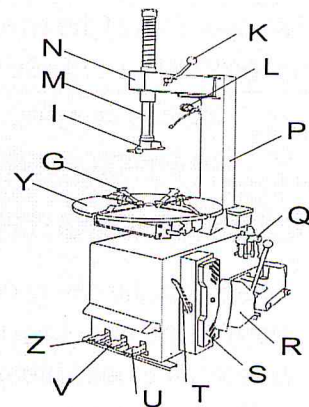

Fig.9
With the lever (T) inserted between the bead and the front section of the mounting head (I) move the tyre bead over the mounting head (Fig.9).